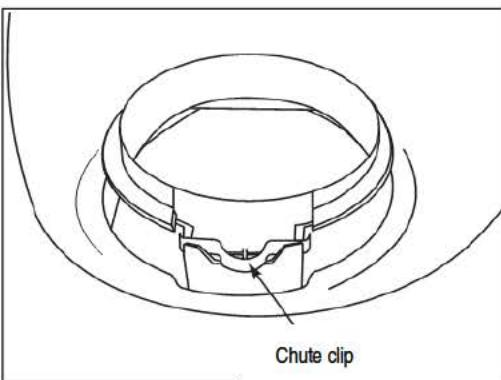

Figure 4
2. Ensure that the chute clip is in its cradle. See figure 4.